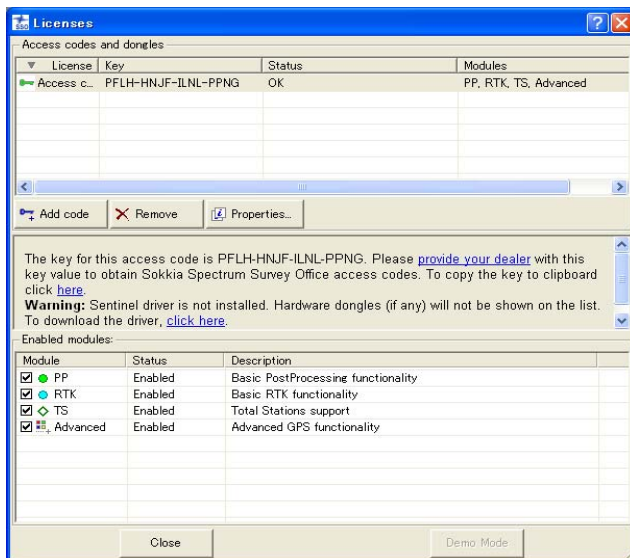

Figure 1-10. Insert USB Hardware Dongle
- insert the hardware lock into the computer's USB port (Figure 1-10) and start Spectrum Survey Office.